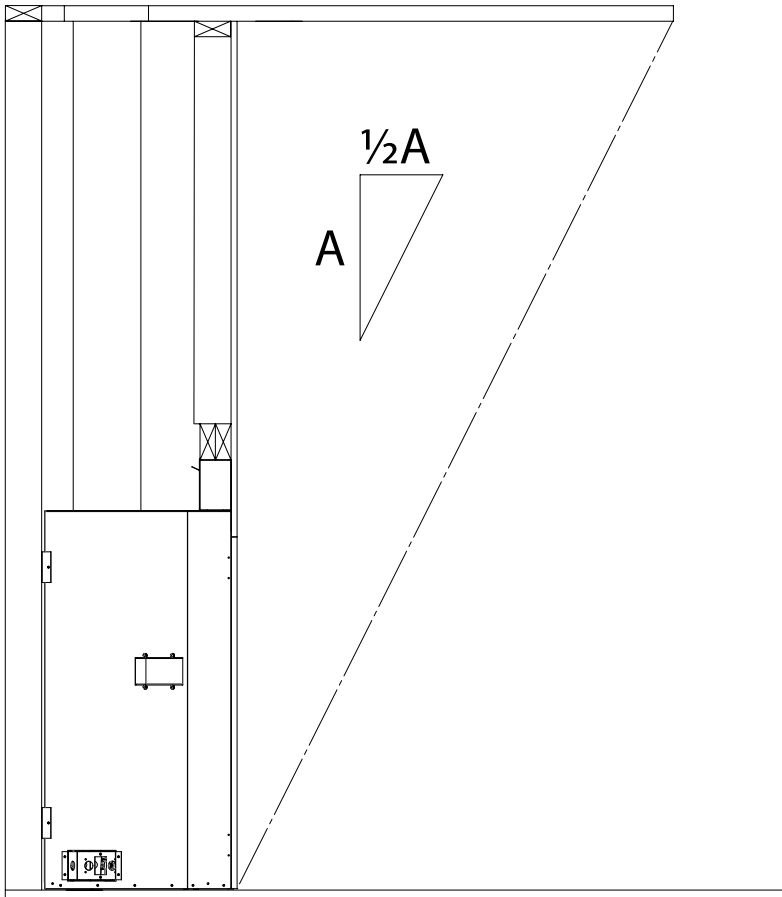

Figure 51: Overhang Depth Requirements
- The fireplace must be protected by an overhang with a depth that is at least equal to half of its height from the base of the fireplace, as shown in Figure 51.